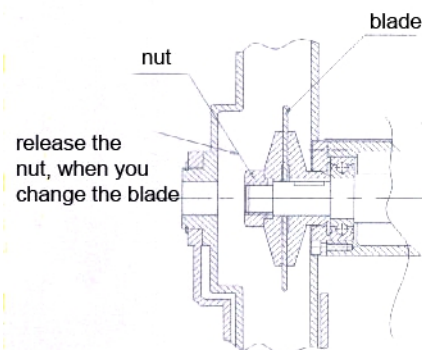

Fig5.03B
- Release the socket head screw of the saw spindle (fig. 5.03B) and remove the saw flange.